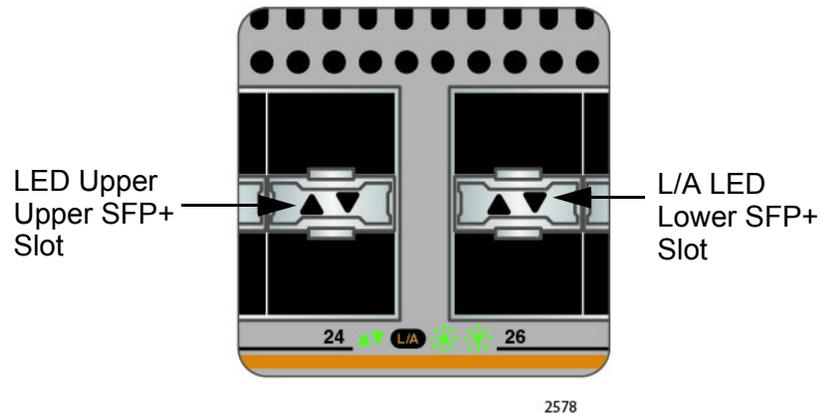

Figure 3. SFP+ Slot LEDs
- ❑ SFP+ Slot LEDs - Each SFP+ slot has a corresponding LED which displays the link and activity status of the port. Refer to Figure 3 on page 23 for the location of these LEDs and Table 2 on page 23 for their functional description.
SFP+ Slot LED Each SFP+ slot has one Link/Activity LED. The LED is triangular in shape. The triangle LED pointing up shows the status of the upper SFP+ slot while the triangle LED pointing down shows the status of the lower SFP+ slot. These SFP+ slot LEDs are shown in Figure 3.